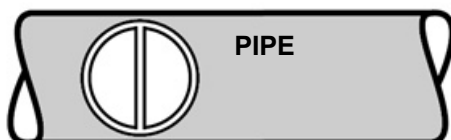

Figure 5: Proper alignment of thickness transducer on cylindrical surfaces
8. **The line on the face of the transducer should be positioned so that it is perpendicular to the flow (figure 5).**